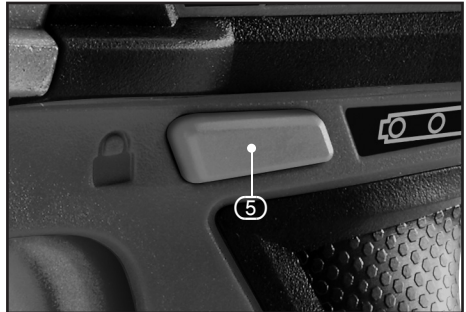

FIG.11
10.2 TRIGGER SAFETY LOCKING BUTTON – FIG.11